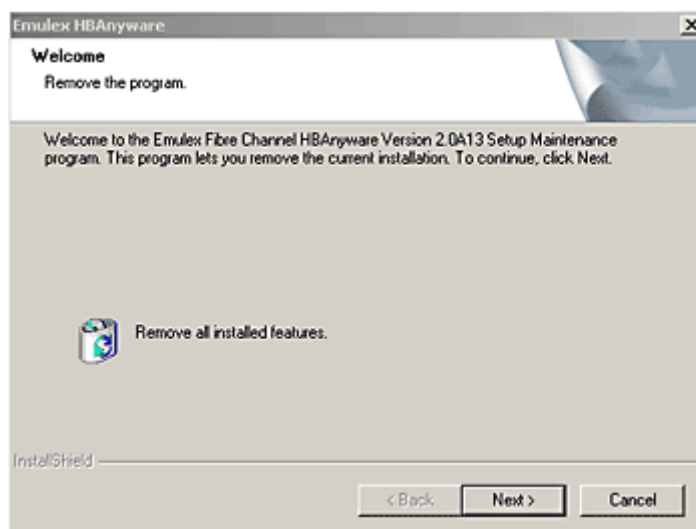

Figure 4: Emulex HBAnyware Welcome Window
2. Select the Emulex Fibre Channel item and click **Change/Remove**. A window similar to Figure 4 will be displayed.